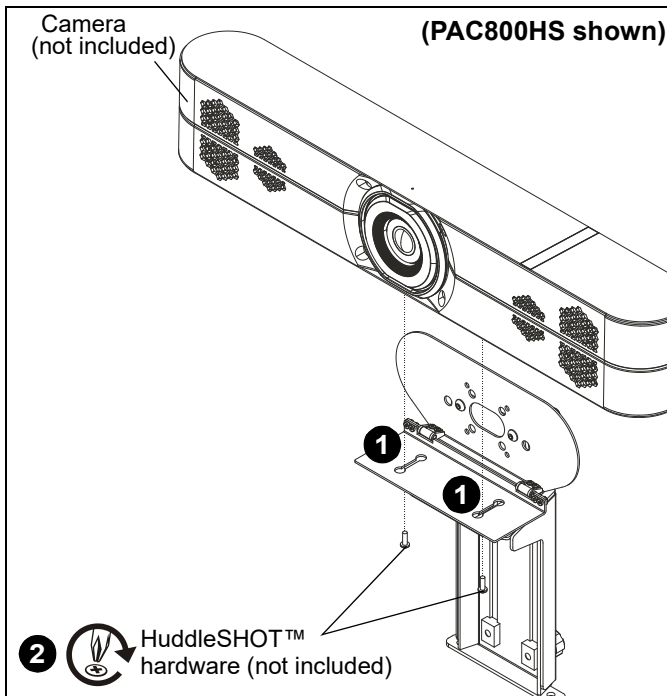

Figure 5
1. Place HuddleSHOT™ camera onto shelf. (See Figure 5)
2. Use screws provided with camera and slots on shelf to secure camera to shelf. (See Figure 5)